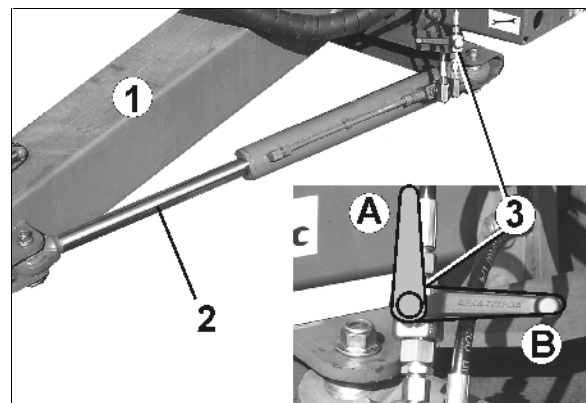

Fig. 112
- **Steering drawbar: Shut the block tap (Fig. 112/3) on the hydraulic (position B).**